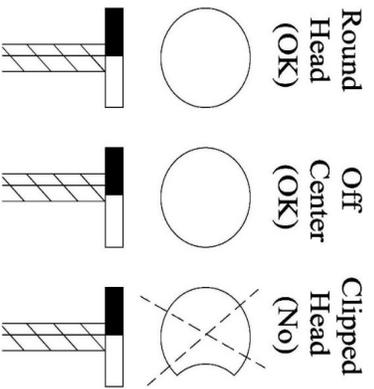

FIGURE 1.
4. Full round head ϕ , No clipped-head nails, common nails or staples shall be allowed. Refer to Figure 1.